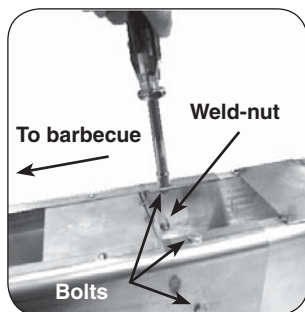

Fig. 7-3
five (5) bolt holes and tighten each using a 7/16" socket driver or wrench (see Fig. 7-3).